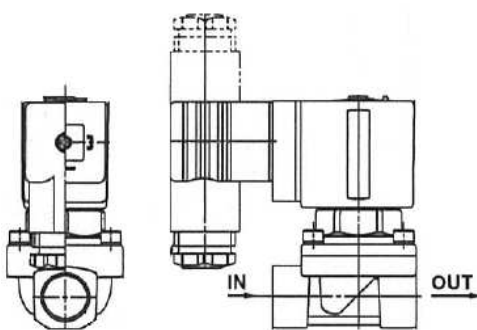

Figure 6. VXED2130 DIN terminal type
- Internal connections are as shown in Figure.6. Make connections to the power supply accordingly.